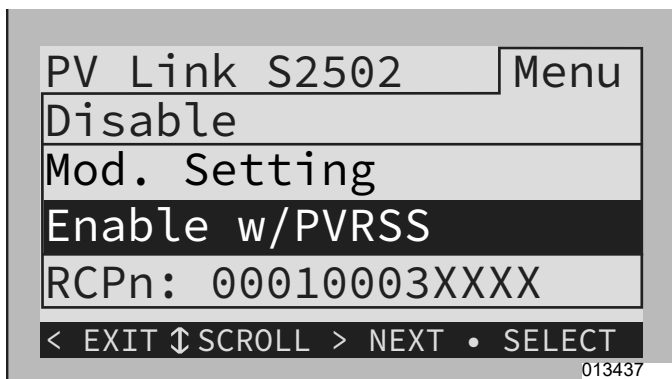

Figure 7-14. PV Link - Enable w/PVRSS
- a. See Figure 7-14. If the PV Link goes directly to “low sun,” disable the device and select “Enable w/PVRSS.”